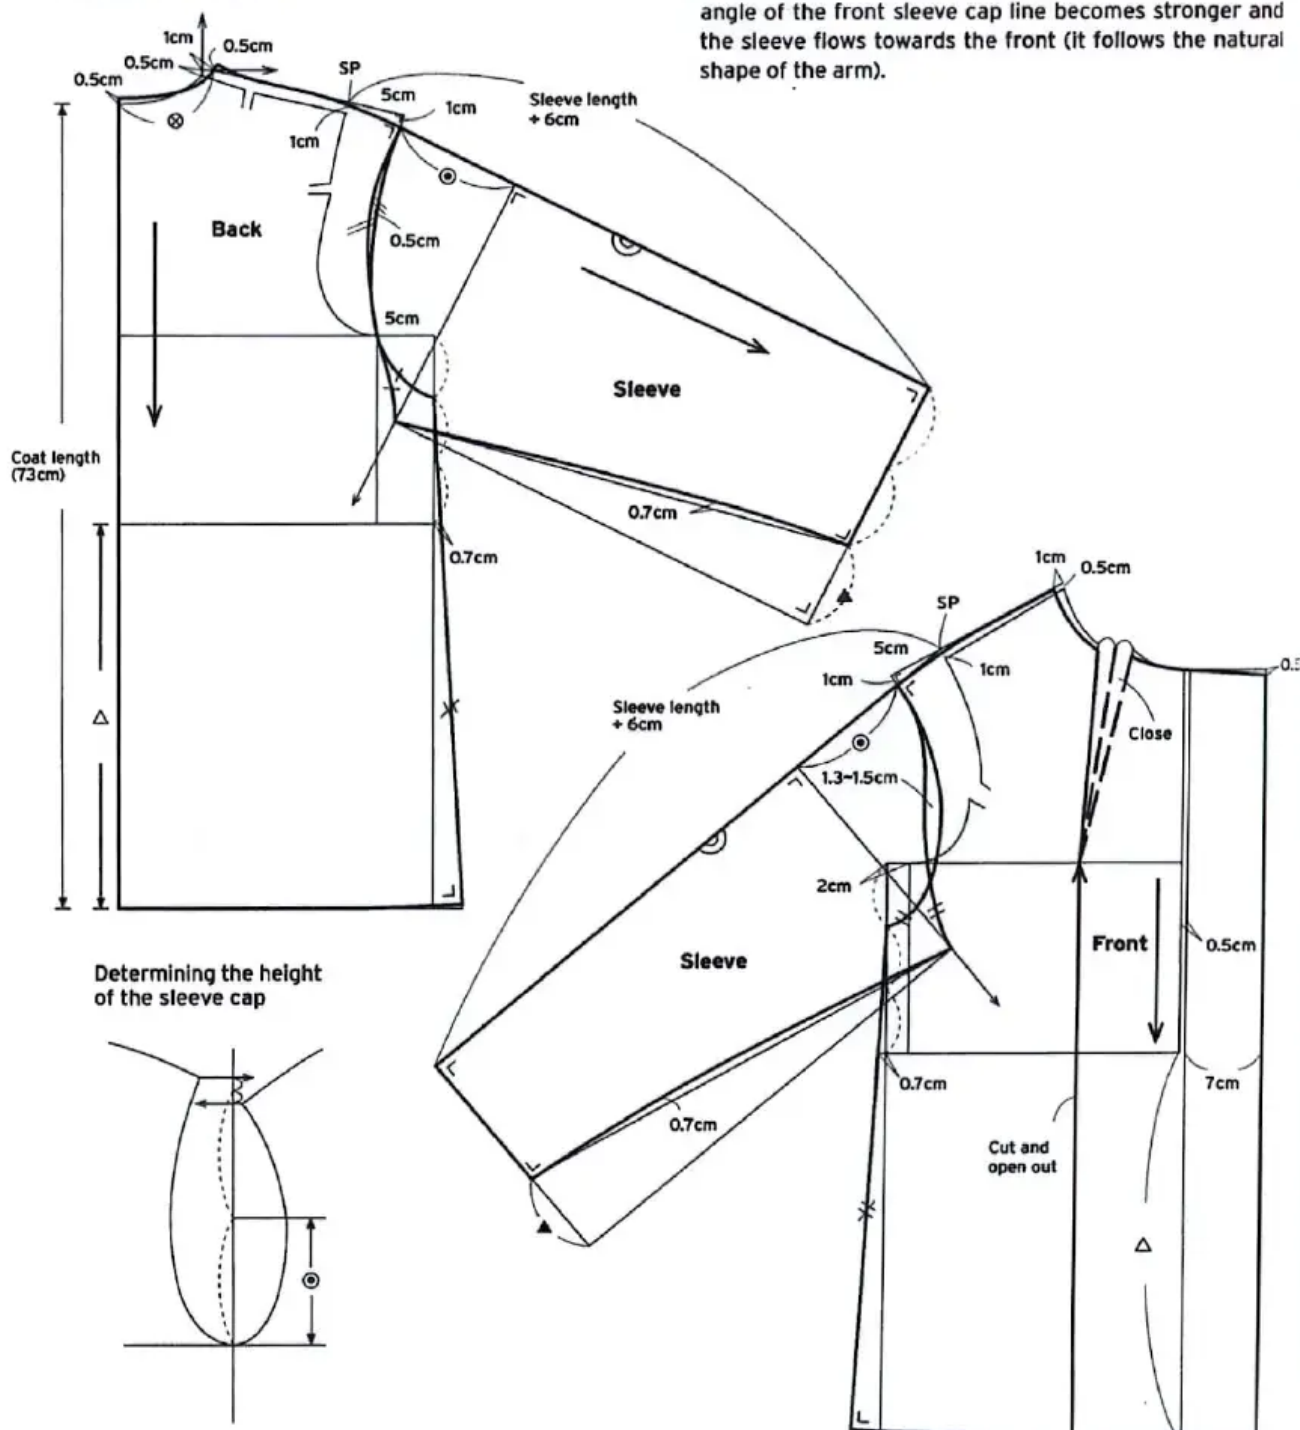

Figure 1
- When the sleeve is attached (see Figure 1 on page 47), the angle of the front sleeve cap line becomes stronger and the sleeve flows towards the front (it follows the natural shape of the arm).